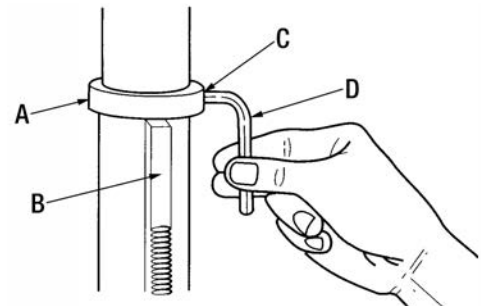

FIGURE 11
9. Replace column collar (A) Fig.11 and position it bevel side down over the rack (B). Tighten set screw (C) in collar with 3mm hex. key (D). To let the rack slide when the table is swung to the left or right around the column, the collar must sit loosely over the rack and should not be angled on the column. Only tighten set screw enough to keep the collar in place, otherwise the collar may break due to excessive pressure.